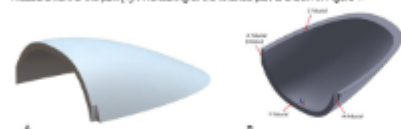

Figure 1
Optimax has significantly advanced its ability to manufacture and measure extreme freeform geometries, most currently with a large freeform window. The outer dimensions of the finished part will be 585 x 490 x 155 mm, with 170 mm of concave (CC) sag, and deviation from a best fit sphere of over 400 nm, placing this part firmly in the category of extreme freeform shapes. Reference features called fiducials or datums have been incorporated into the design of the part to provide information about the location and orientation of the optical surfaces, helping to characterize surface figure error and aid in the manufacture and measurement of the part [1]. A rendering of the finished part is shown in Figure 1.